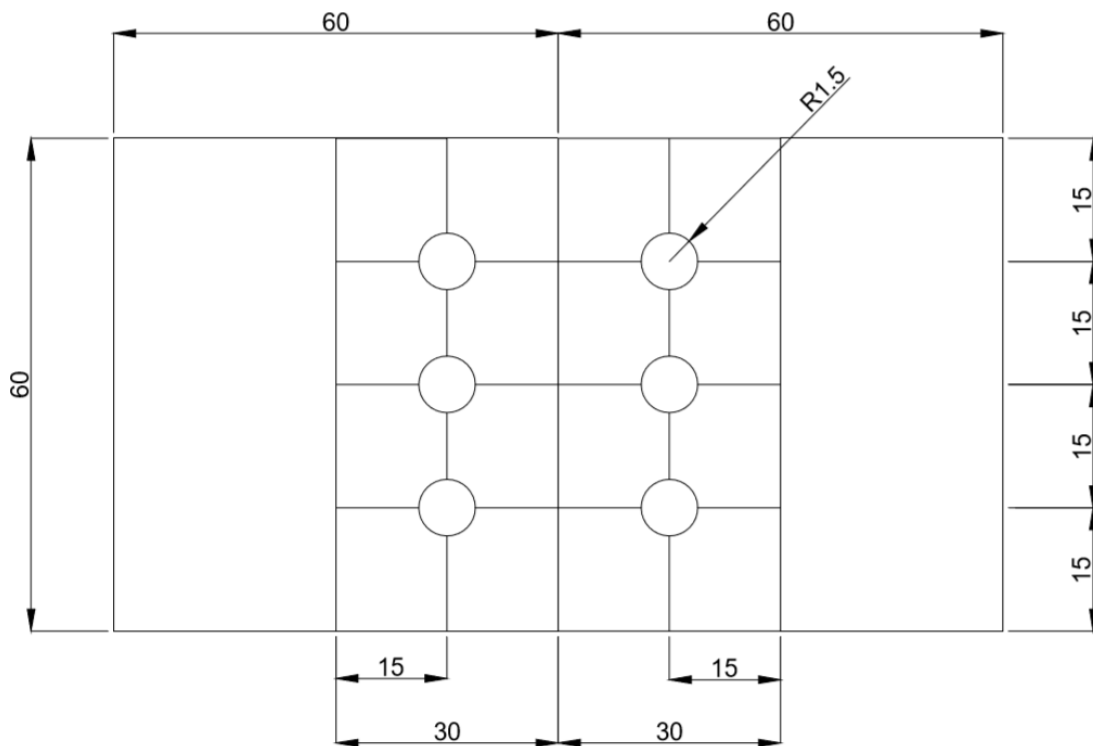

Fig 3
4. Then take one piece and mark a line from left edge at an internal of 15mm of dimensions and again mark a line from top edge at an internal of 15mm of dimensions as shown in fig 3.